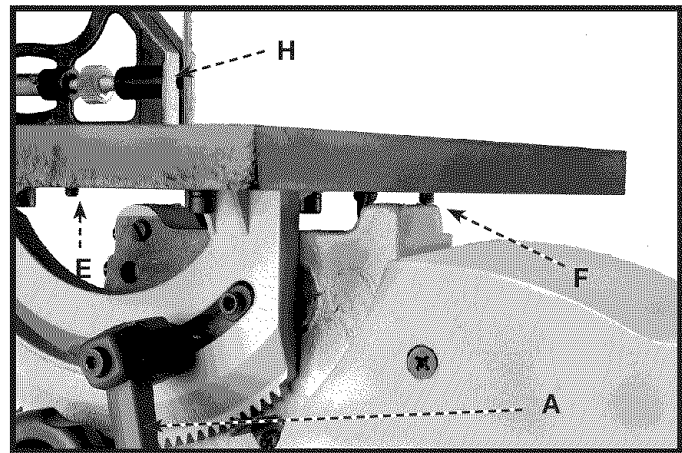
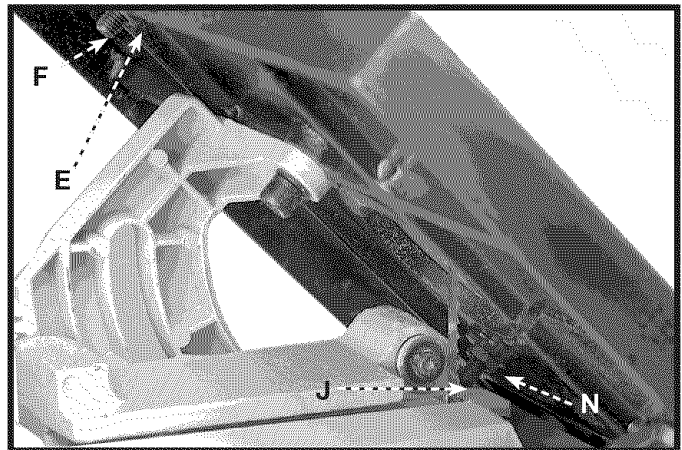
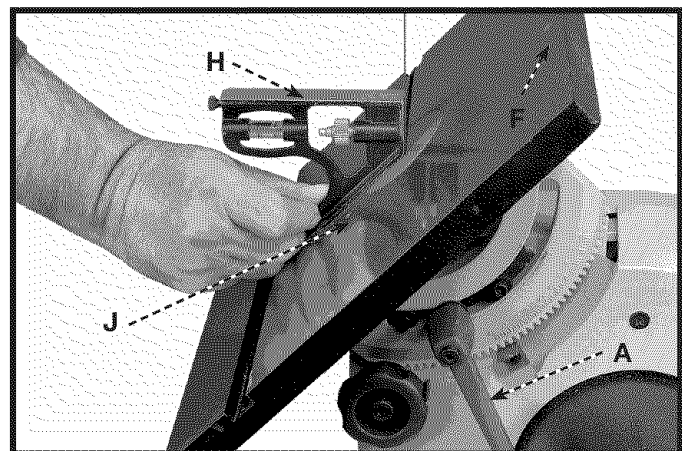

Fig. 32
Fig. 33
Fig. 34
1. Tilt the table to the 90 degree position as shown in Fig. 32 and tighten lock handle (A). Place a square (H) on the table and against the blade and check to see if the blade is 90 degrees to the table surface. If an adjustment is necessary:
2. Tilt the table to expose the lock nut (E) Fig. 33. Loosen lock nut (E) and return table to the 90° position. With the lock handle (A) Fig. 32 loose, turn the adjusting screw (F) Fig. 34, using the 3mm hex wrench provided until the blade is 90 degrees to the table. Then tighten lock handle (A) and lock nut (E) on the adjustment screw (F).
3. Tilt the table to the 45 degree position as shown in Fig. 34. Place a square (H) Fig. 34 on the table and against the blade and check to see if the blade is 45 degrees to the table surface. If an adjustment is necessary:
4. Loosen the lock nut (N) Fig. 33 on the adjustment screw (J) located on the underside of the table. With the lock handle (A) Fig. 34 loose, turn adjustment screw (J) using 3mm hex wrench provided until the blade is 45 degrees to the table. Tighten lock handle (A) and lock nut (N) on the adjustment screw (J).